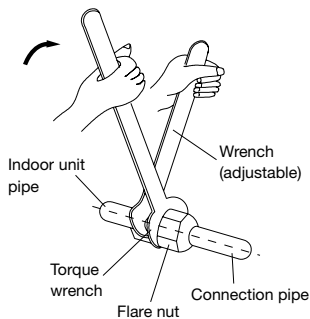

Figure 18
10. Tighten the flare nut to the specified tightening torque with torque wrench and adjustable wrench (Figure 18).